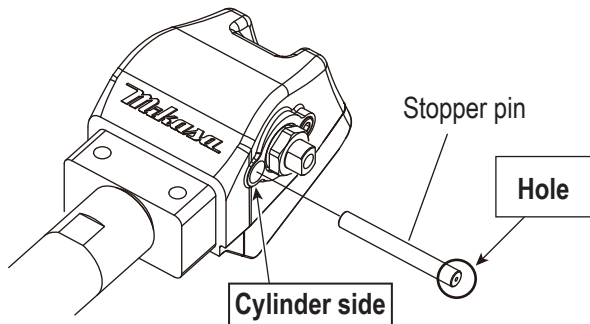

Fig.13
e. Install the stopper pin of pump head. At this time, make sure that the hole is visible before installing.(Fig.13)